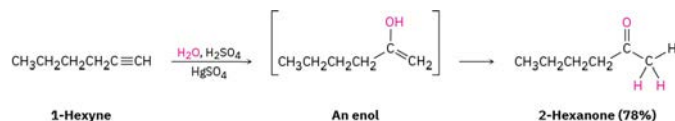

Figure 22.3k. Hydration of 1-hexyne to produce 2-hexanone. (credit: *Organic Chemistry (OpenStax)*, CC BY-NC-SA 4.0).
Hydration of alkynes also can take place. Alkynes don't react directly with aqueous acid but will undergo hydration readily in the presence of mercury(II) sulfate as a Lewis acid catalyst. The reaction occurs with Markovnikov regiochemistry, so the -OH group adds to the more highly substituted carbon and the -H attaches to the less highly substituted one as demonstrated in Figure 22.3k.